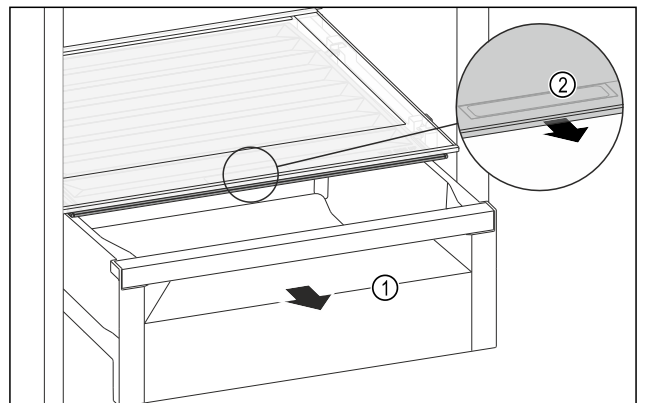

Fig. 86
- Pull out the drawer Fig. 86 (1).
- Grasp the recessed grip Fig. 86 (2) on the compartment lid and pull the compartment lid forwards at the same time.